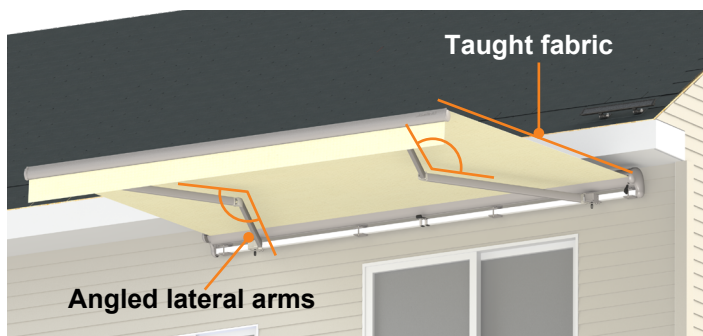

Fig.76
**NOTE:** "Full extension" of the awning is achieved when the fabric is taught and does not droop or sag, and the lateral arms are bent but not locked at the elbow joints (Fig. 76).
**NOTE:** The lateral arms of the awning should never become fully straight so that the elbow joints lock. They should always remain slightly bent, even while the awning is at full extension (Fig. 76).